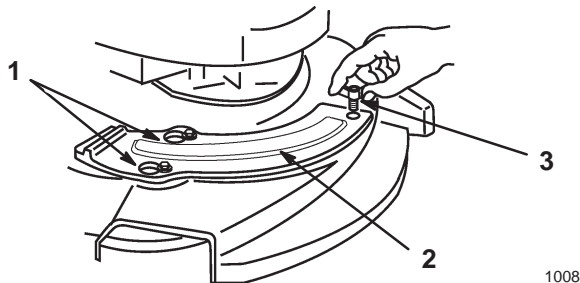

Figure 44
7. Slide the mulch plate over the shoulder bolts (Fig. 44).
9. Secure the mulch plate with the wing screw (Fig. 44).